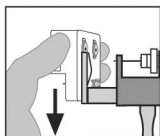

Figure 9
5. While keeping the instrument in the upright position, slide the corresponding clasp (located directly above the stud) into the clasp retainer at the end of the instrument (Figure 9).